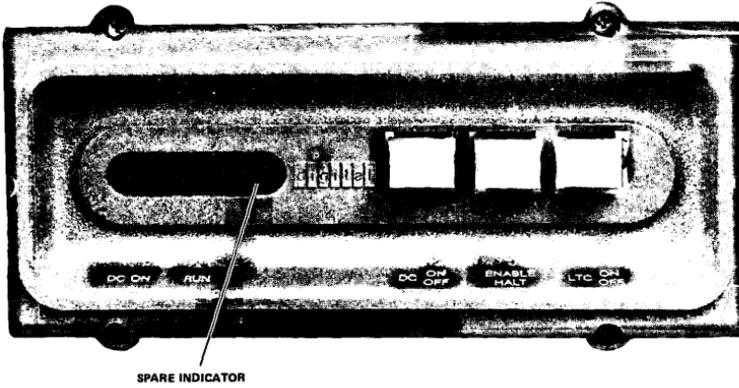

Figure 25 Console Controls and Indicators
4. On H780-H and -J options, set the console DC ON/OFF switch (Figure 25 ) to ON. The DC ON indicator should light. (For master-slave operation, the DC ON/OFF switch and DC ON indicator are located on the user's master supply. The DC ON indicator on the slave should also light.)
**Console Controls and Indicators** – The H780-H or -J master console has three LED indicators and three 2-position toggle switches. One of the LED indicators is a spare indicator. Circuitry to drive this indicator is included on the console printed circuit board for user application. The console on the H780-K and -L slave supplies has only one LED indicator, DC ON. Figure 25 shows the H780 console controls and indicators; they are described in Table 2. Additionally, the rear panel of the H780 contains an AC ON/OFF toggle switch and an ac line fuse (Figure 12).